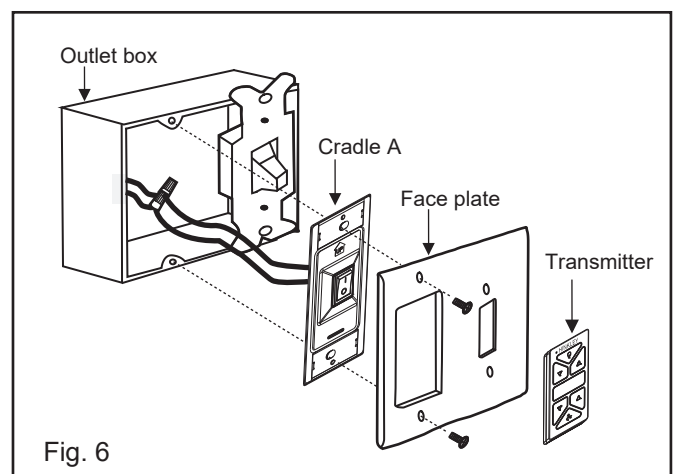

Fig. 6
2. Connect the black lead wires from the switch in the cradle A to the black wires in the switch box. Hot input wire to one of the cradle switch leads. Power lead to the fan is connected to the remaining switch lead. (Fig. 6)